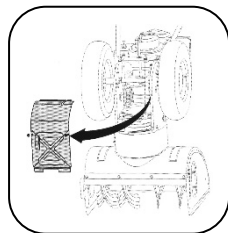

Fig.21
2. Gently tilt the snow thrower up and forward so that it rests on the auger housing. Remove the cover from the underside of the snow thrower by removing the four self-tapping screws that secure it. See Figure 21.